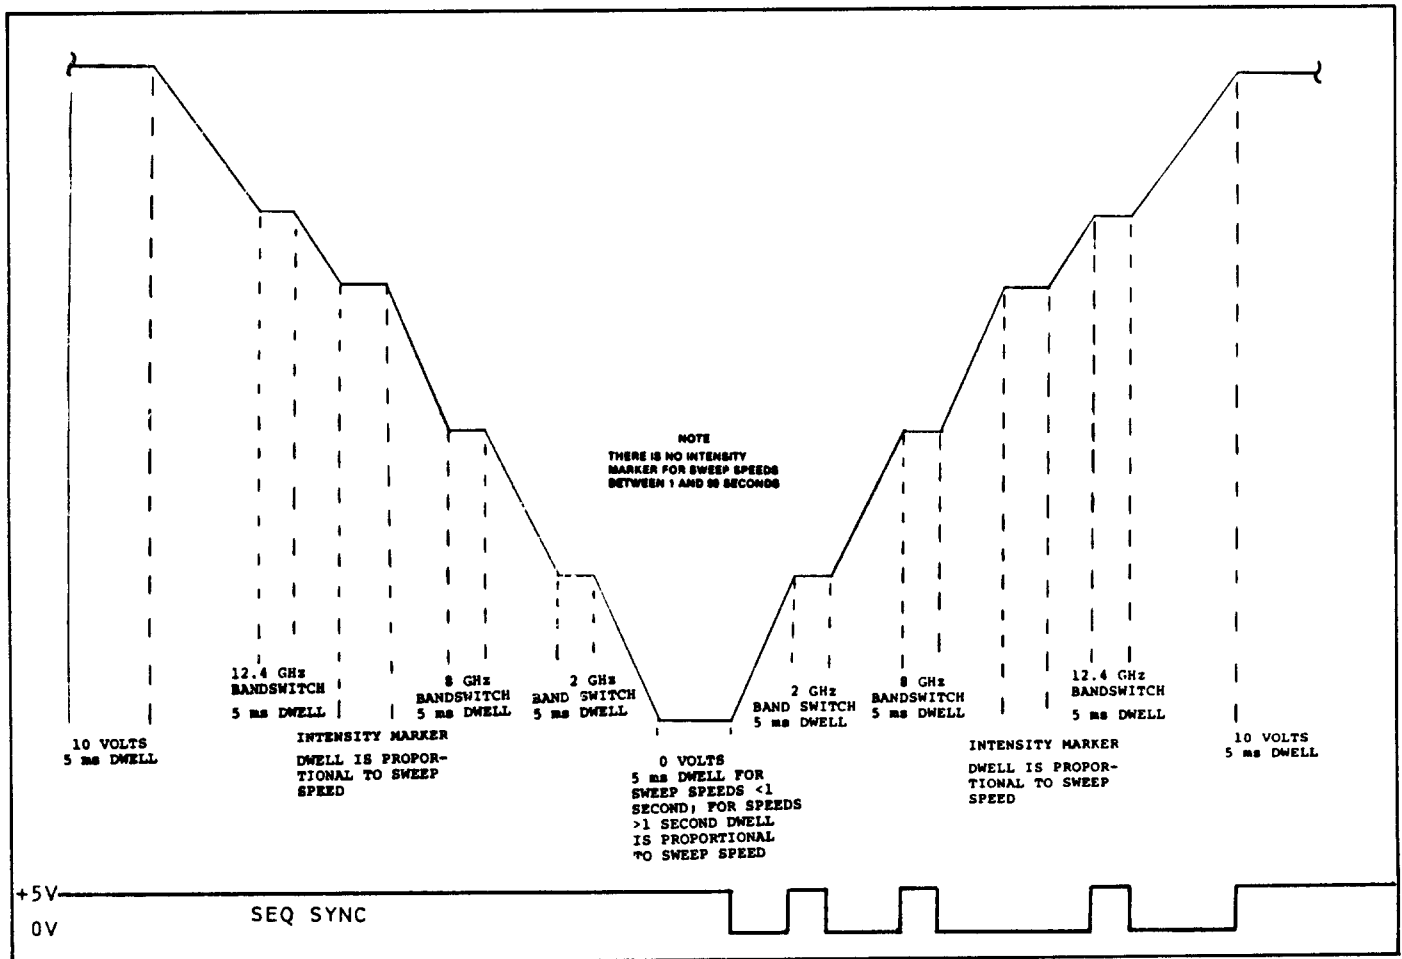

Figure 7-27. A2 PCB Sweep Ramp and Sequential Sync Pulse
- a. **Ramp Generator.** This functional block produces the PCB sweep ramp output signal and the two retrace blanking pulses that are supplied to the **RETRACE BLANKING (+) and (-)** rear panel connectors. The block also provides control for the relay connected to the rear panel **PENLIFT OUTPUT** connector. The input to this functional block is the front panel **SWEEP TIME** control group from the A12 Microprocessor PCB. Eight bits of this nine-bit group are latched into the digital-to-analog converter (DAC) circuit (U15) when the microprocessor clocks **SP13 HIGH**. The DAC output is a negative voltage that causes the Sweep Ramp Integrator (U20B) to integrate in the positive direction. When the sweep ramp reaches 10 volts, the 10V Compare circuit (U25B, U25C) causes the Sweep Direction and Dwell Gating circuit (U24A, U24B, U2A, U2B, U17C) to open Switch A and close Switch B. This switching action causes the integrator to then integrate in the negative direction (retrace). When this negative-going ramp reaches 0 volts, the 0V Compare circuit (U25D, U25A) then causes Switch B to open and Switch A to close. A switch arrangement that reconfigures the integrator to again integrate in the positive direction. A typical sweep ramp waveform is shown in Figure 7-27.
The Seq Sync Logic circuit outputs a +5V pulse (Figure 7-27) during an oscillator bandswitch, 0- and 10-volt dwell periods, and sweep ramp retrace. This pulse goes to the A1 PCB (**H SEQ**) and to the rear panel SEQ SYNC connector.